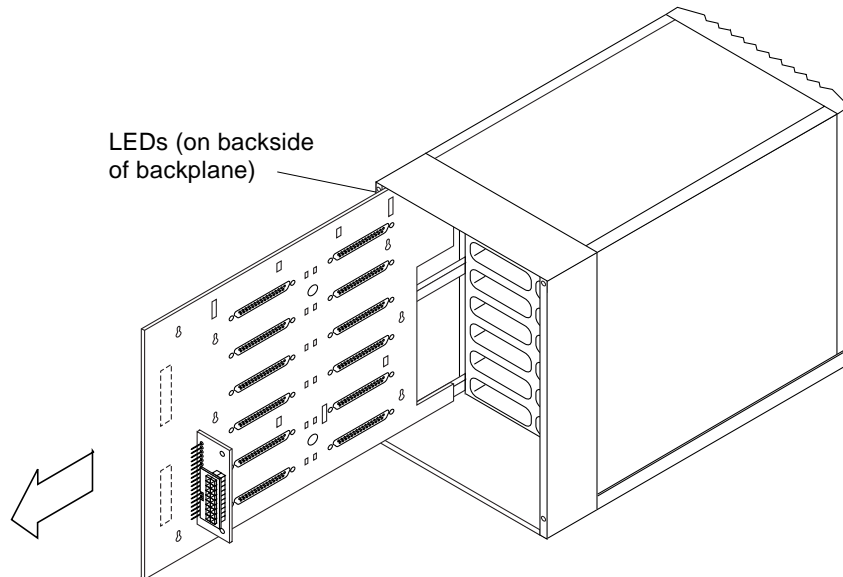

FIGURE 6-7 Removing and Replacing the Backplane
14. Slide the backplane out through the back of the unit once you have cleared it away from the posts (FIGURE 6-7).
Note – LEDs are attached to the backplane at the front end of the board (FIGURE 6-7). Be careful not to break off the LEDs when sliding the board out.
1. **Slide the new backplane in through the back of the unit so that it is parallel to the wall of the chassis as you face the back of it (FIGURE 6-7).**